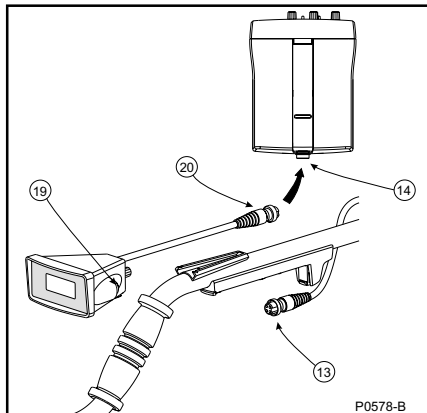

Figure 18 - Installing the meter
- a) Plug the coil connector (13) into the socket (19) on the meter box, winding the excess cable around the shaft.
- b) Plug the meter cable connector (20) into the control box plug (14), winding the excess cable around the shaft (see figure 18).